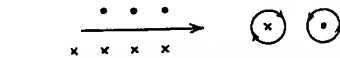

FIG. 2-8 Relation between directions of current and flux.
**62. The Right-Handed-Screw Rule.** The direction of the flux produced by a given current is determined as shown in Fig. 2-8 (see also Fig. 2-6). If the current is established in the direction of rotation of a right-handed screw, the flux is in the direction of the progressive movement of the screw. If the current in a straight conductor is in the direction of the progressive motion of a right-handed screw, then the flux encircles this conductor in the direction in which the screw must be rotated in order to produce this motion. The dots in the figure indicate the direction of flux or current toward the reader; the crosses, that away from him.